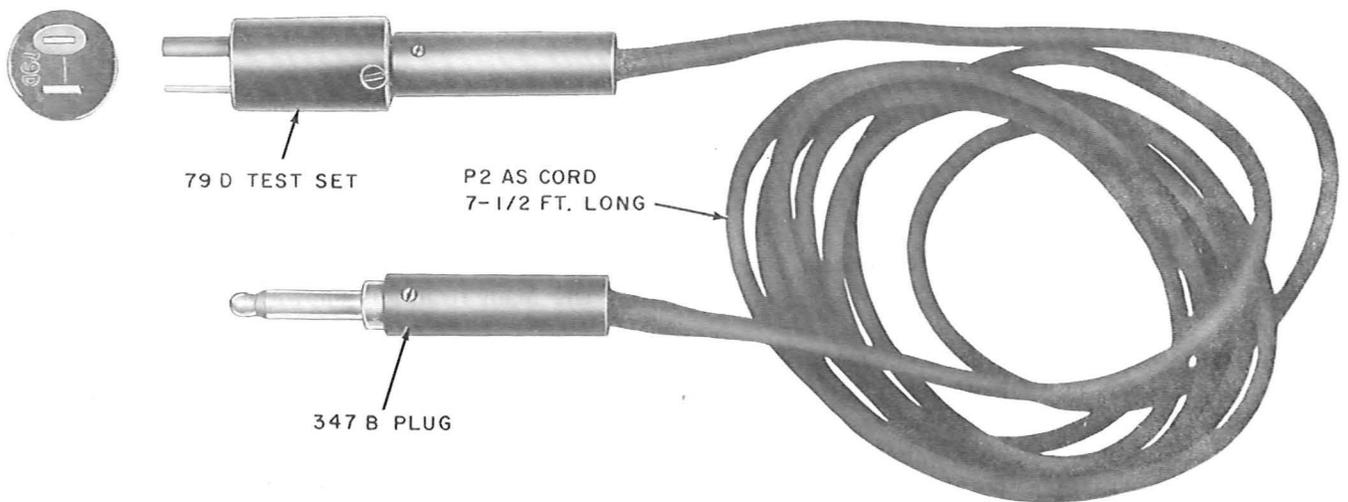

Fig. 1—79D Test Set
1.03 The 79D Test Set consists of a small exploring coil equipped with a cord and plug. The end of the coil has two prongs to facilitate its use on cable conductors and cross-connections. The 79D differs from the superseded 79C Test Set only in that the prongs are equal in length (5/8 inch) (Fig. 1).